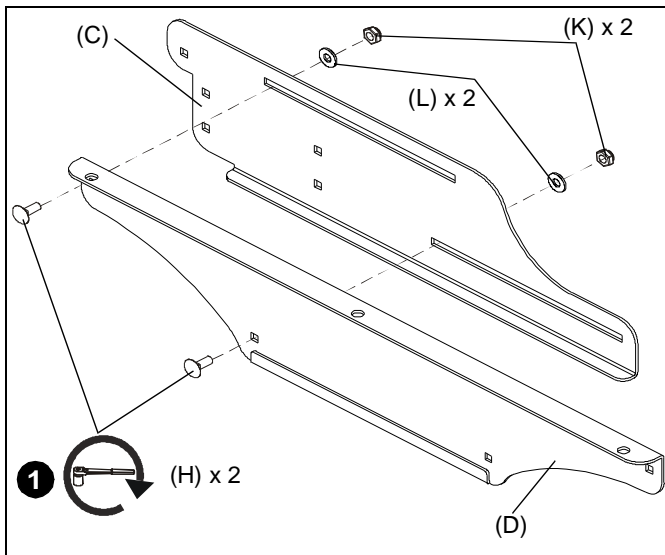

Figure 1
1. Attach adjustable brace (D) to fixed brace (C) using two 10-24 x 3/8 round head carriage bolts (H), two #10 flat washers (L) and two 10-24 nylon lock nuts (K). (See Figure 1)
2. Repeat Step 1 for remaining adjustable brace (D) and fixed brace (C).